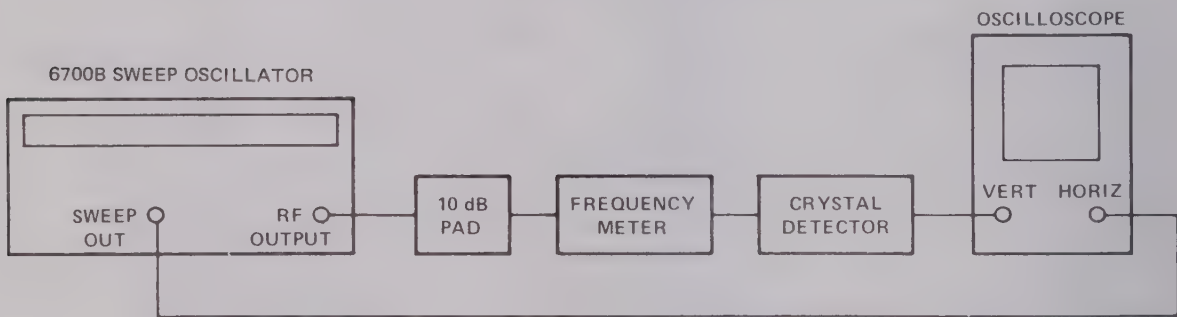

Fig. 1 Frequency accuracy measurement test set-up
4. (1) Connect equipment as shown in Fig. 1.